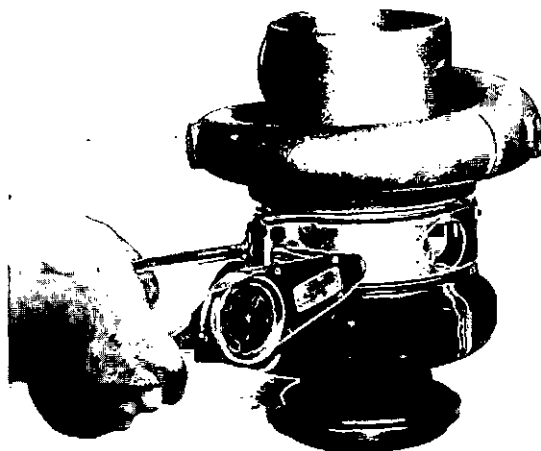

Fig. 4-39, (T465091). Torque the V-band clamps
16. Install the V-band clamps (15) using the new washers, capscrews and locknuts. The torque must be 32-36 in-lbs, Fig. 4-39.